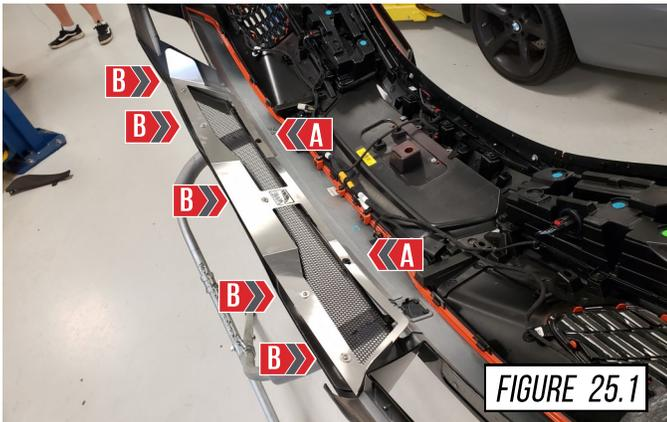
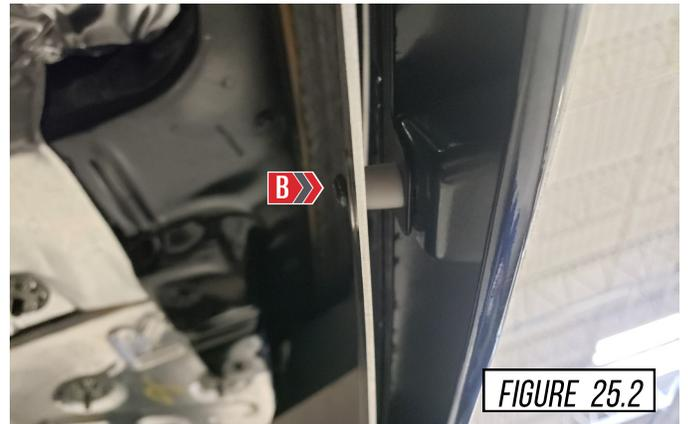

FIGURE 25.1
FIGURE 25.2
Install the AWE heat shield to the inside of the bumper, as shown in **Figure 25.1**. The top 2 holes (A) use the OE hardware and the bottom 5 holes (B) is using supplied hardware, as shown in **Figure 25.2**.